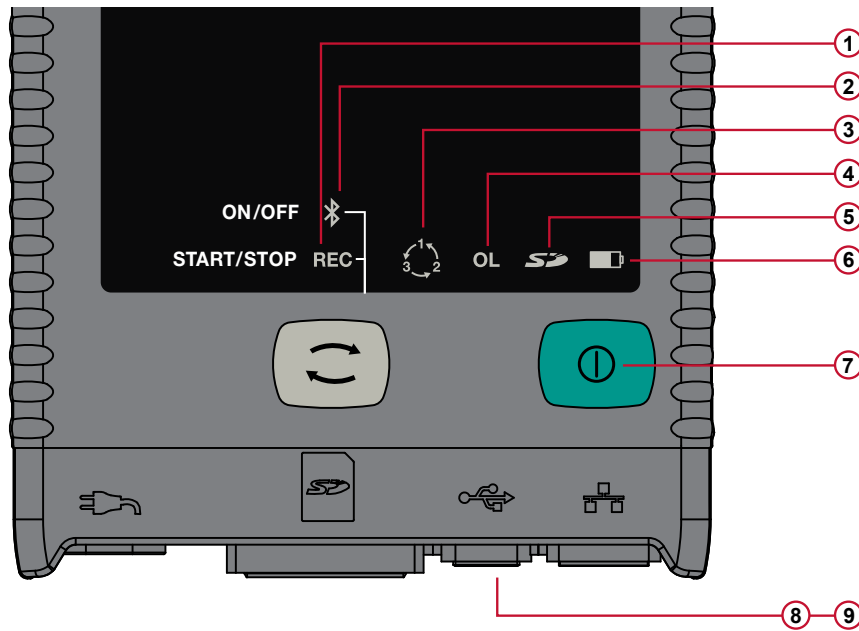

Figure 8
- ① Four voltage input terminals.
- ② Three current input terminals.
- ③ Rigid molded casing over-molded with thermo-adhesive rubber.
- ④ Digital LCD displaying measured, calculated and parameterizing quantities (see § 2.9).
- ⑤ Two (PEL 102) or Four (PEL 103) function buttons (see § 2.8).
- ⑥ Nine LEDs for status information (see § 2.10).
- ⑦ Connections for USB, Ethernet, SD memory card and terminal cover caps.
- ⑧ Standard (IEC C7 figure 8 terminal – non polarized) power connector for 110/250VAC power source.
The Yellow/Red LED (see #6 Figure 8) is used to indicate the status of the battery.
- The green REC LED (see #1 Figure 8) will light up for 3 seconds, followed by the lighting of the blue Bluetooth LED (see #2 Figure 8) for 3s - one after another. During the time these LEDs are lit, you will be able to control their respective function as described below.